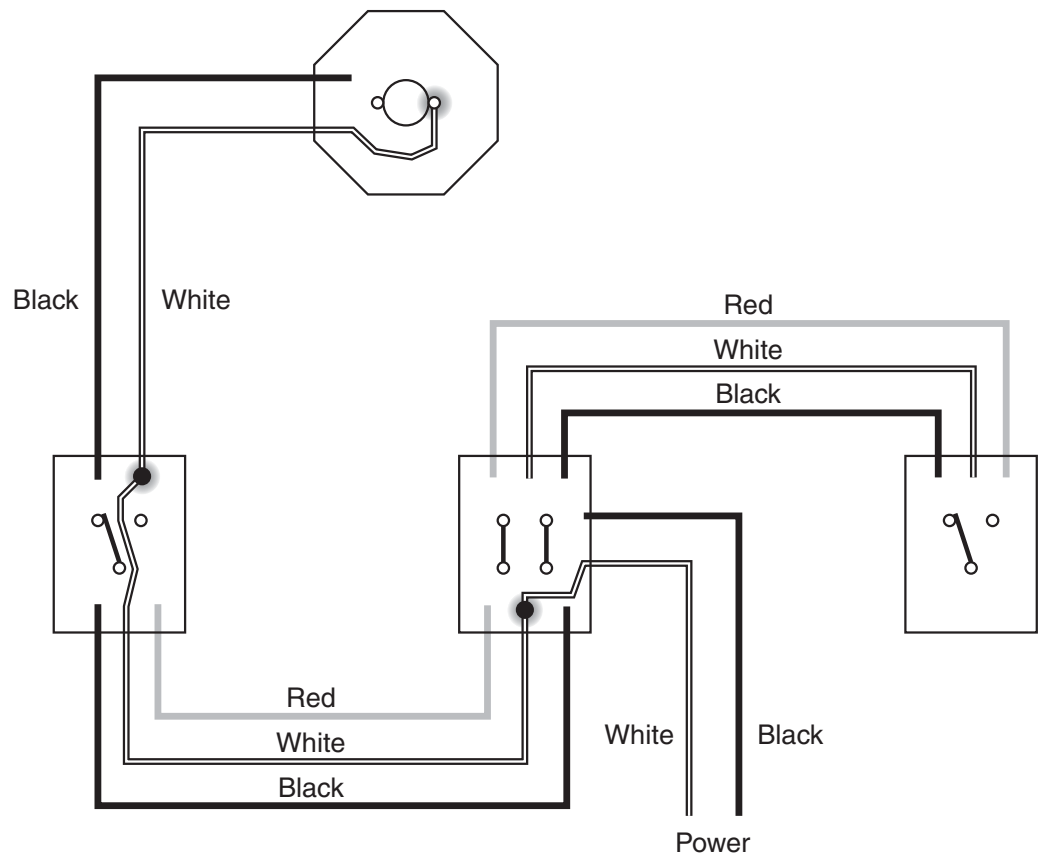

Figure 9-14 The neutral connects to the light.
1. *Connect the neutral to the light.* The white wire of the power cable is connected to the white wire of the three-conductor cable that runs to the 3-way switch box that contains the switch leg to the light (Figure 9-14). The neutral continues through the 3-way switch box and connects to the white wire of the switch leg. It is then connected to one side of the light.